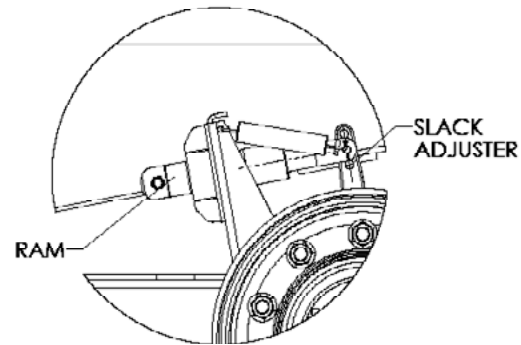

Figure 32 - 90° Ram & Slack Adjuster
10. Apply brakes and check for leaks. Make sure all rams are fully extended while applying brakes. The ram and slack adjuster will be 90 degrees to each other (Figure 32). The ram should extend approximately 1-1/2 inch (38mm) to 1-3/4 inch (44mm).